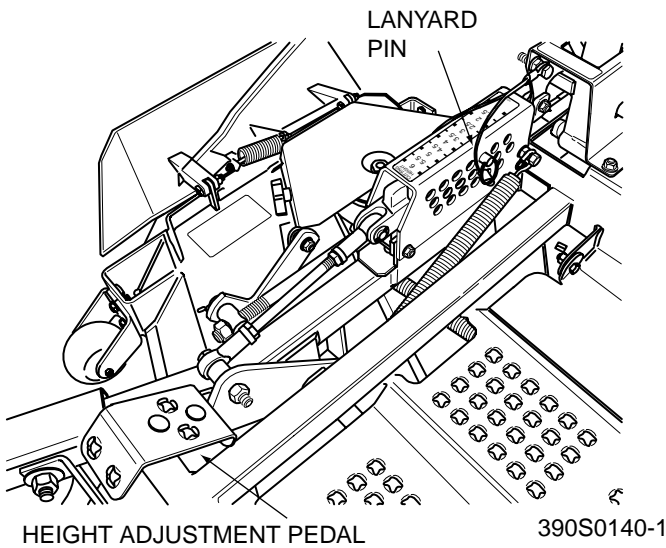
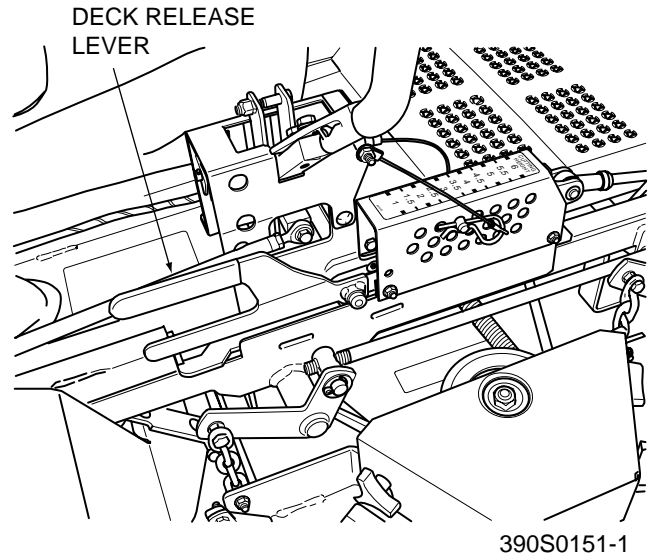

Figure 4-6 Deck Release Lever
Figure 4-7 Adjusting Cutting Height
2. Push the cutting height adjustment foot pedal all the way forward using your right foot until it locks in place. (Figure 4-6).
3. Insert the lanyard pin into the cutting height index at the desired cutting height. Push forward on the deck lift foot lever, hold in place and lift up on the deck release lever, (Figure 4-7). Slowly release the foot pedal. A deck height decal is located on the cutting height index as an aid in adjusting the deck to the desired height. (Figure 4-6).